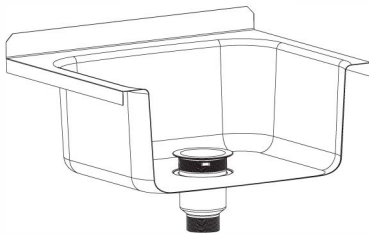

FIG2
c) Apply a bead of silicone to the recess of the outlet and around the flange of the Scraptrap. Place body through 125mm sink outlet as shown in Fig 2.